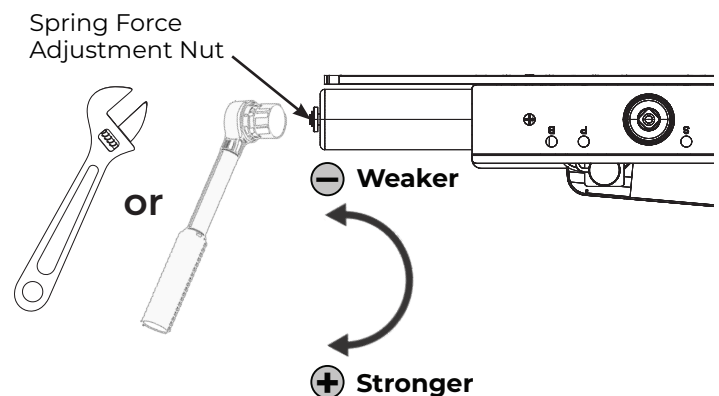

Figure 26 View from ceiling looking downward
1. Using an adjustable wrench or a ratchet with an 11/16" socket, turn the nut in end of closer body tube to desired force. (Figure 26)